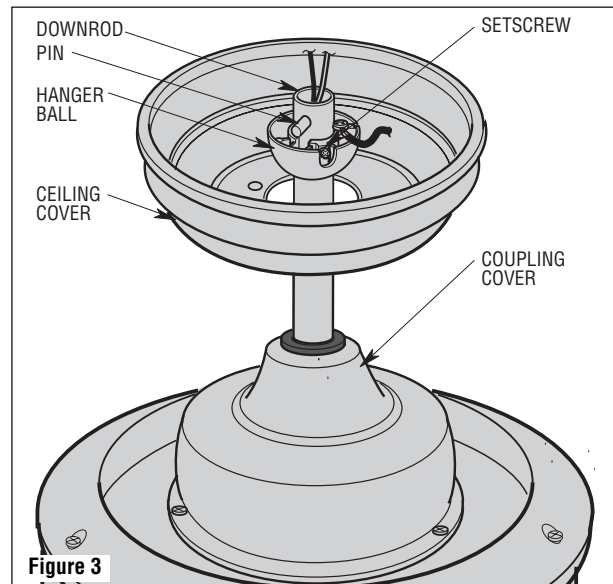

Figure 3
3. Make sure the grommet is properly installed in the coupling cover, then slide the coupling cover on the downrod until it rests on the motor housing. Place the ceiling cover over the downrod. Be sure that the ceiling cover and the coupling cover are both oriented correctly (Figure 3).
4. Reinstall the hanger ball (Figure 3) on the downrod as follows. Route the two 80" motor leads through the hanger ball. Position the pin through the two holes in the downrod and align the hanger ball so the pin is captured in the groove in the top of the hanger ball. Pull the hanger ball up tight against the pin and securely tighten the setscrew in the hanger ball. A loose setscrew could create fan wobble.